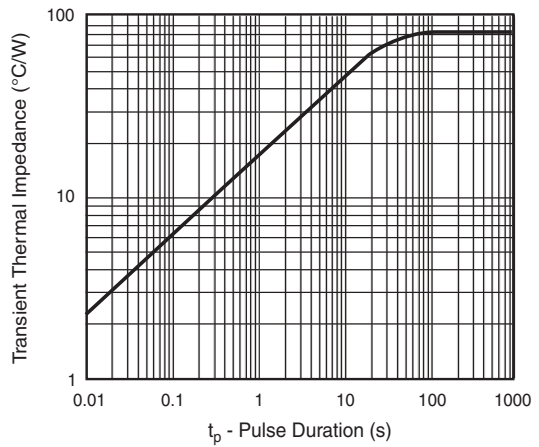

Fig. 5 - Typical Transient Thermal Impedance
2. Mounted on copper pad area of 0.2"x0.2" (5.0x5.0 mm) per Fig 5